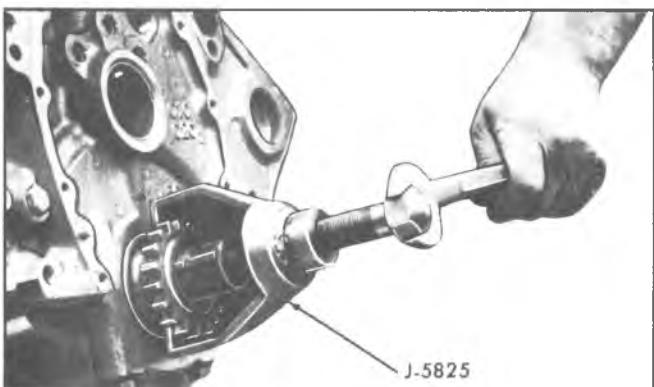
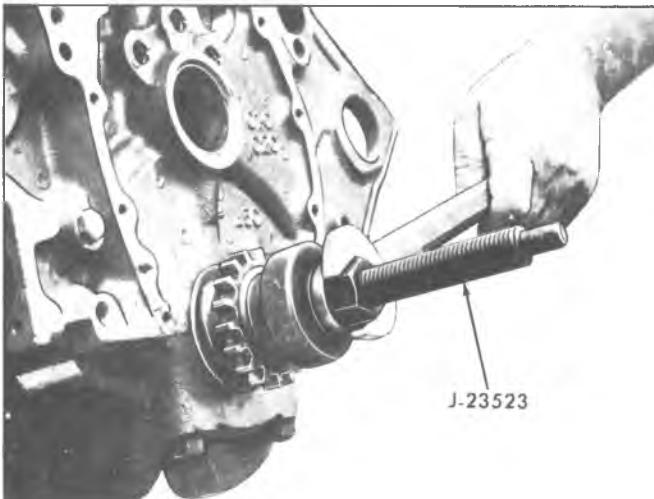
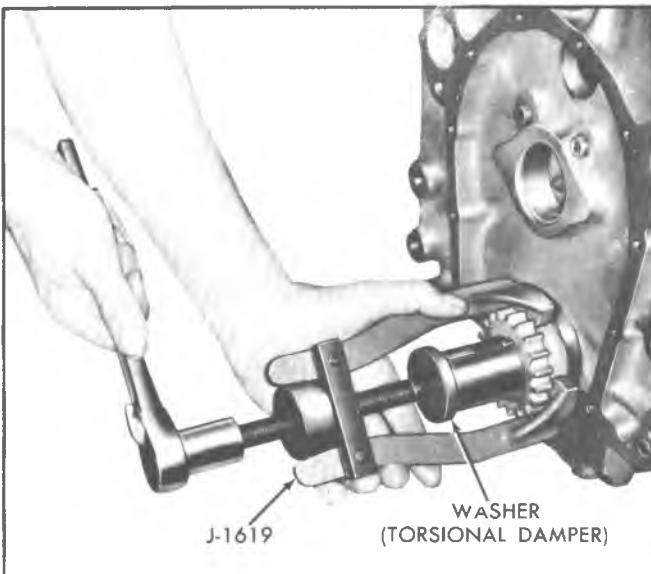

Fig. 24V—Removing Crankshaft Sprocket (Small V8)
Fig. 25V—Installing Crankshaft Sprocket
Fig. 26V—Removing Crankshaft Sprocket (Mark IV V8)
5. If crankshaft sprocket is to be replaced on Small V8 engines remove sprocket using Tool J-5825 (fig. 24V). Install new sprocket using bolt and nut from J-23523 (fig. 25V). On Mark IV V8 engines remove sprocket using Tool J-1619 (fig. 26V). Install new sprocket using bolt and nut from Tool J-23523 (fig. 25V).